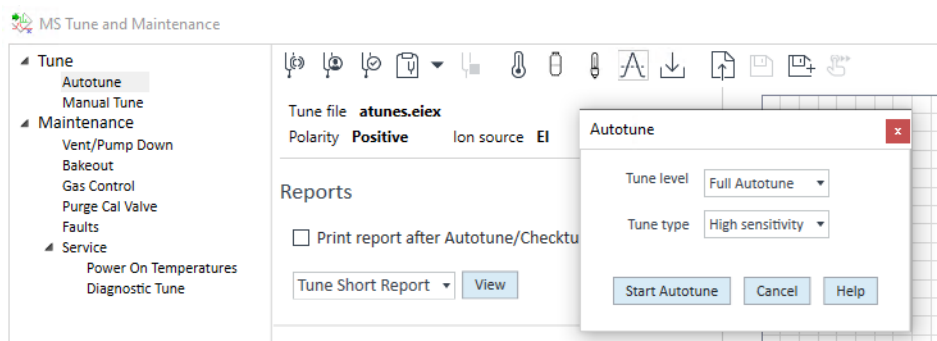

Figure 34. Setting up for autotune.
- 6 If using a new tune file click the **Full Autotune** icon. If a full autotune was already run on a tune file you can click the **Autotune Options** icon and select a **Tune level** to run **Detector Gain only**, **Mass Axis and Detector gain only**, or a **Full Autotune**. You can also select a **Tune type** of **Standard** or **High sensitivity**. (See Figure 34 on page 116.)